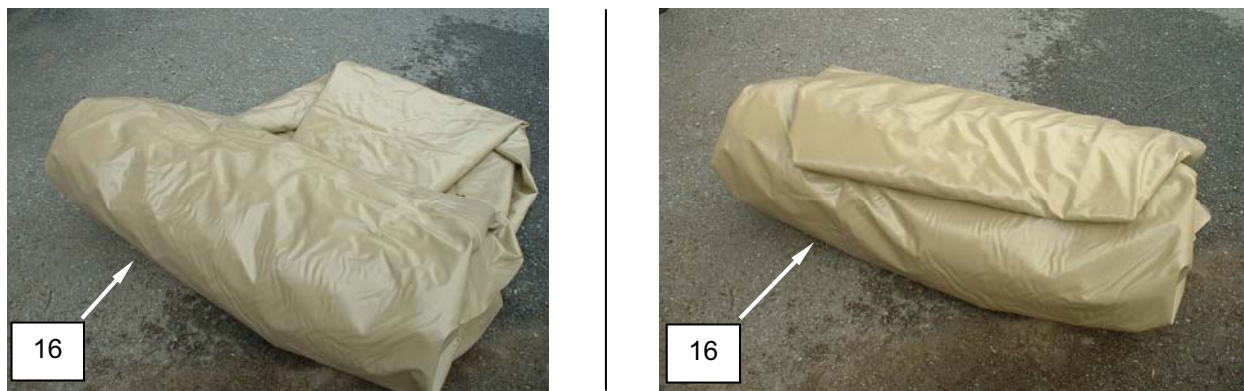

Figure 18. Prepare the 3000 Graywater Tank for Movement.
16. Roll the tank and ground cover (Figure 18, Item 16) into a 2-ft by 4-ft cylinder.